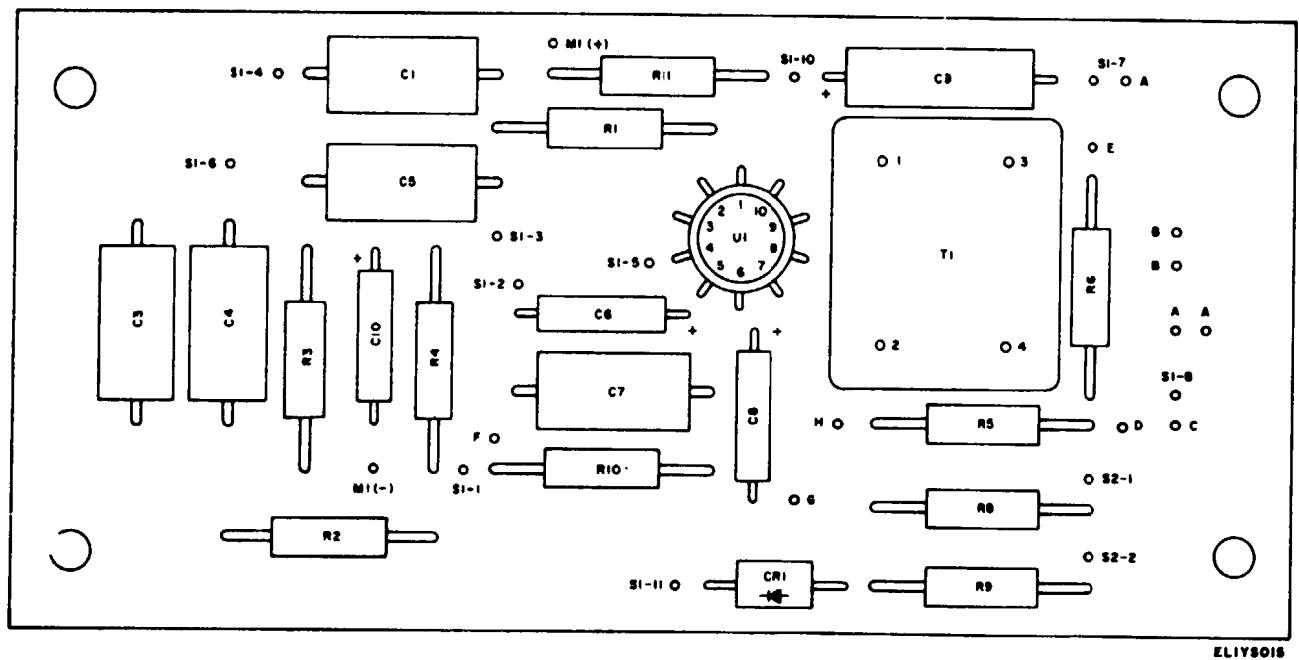

Figure 7-1. Printed circuit board assembly A3A1, component side.
*a.* Resistance measurements for the equipment are listed below. Use figures 7-1 and 7-2 to locate components and points where resistance measurements are to be taken. Before making resistance measurements, remove the battery (para 2-5). Note that the position of S1 will affect resistance readings. Note also, with reference to figure 6-2, that measurements of R1, R5, R7, R10, and T1 have shunt components that will affect their values. In checking capacitors that are connected to the icu, do not assume an open circuit, as the icu has shunt paths internally that will vary in resistance values that may differ with meter polarity. The charts below list resistance measurements across indicated points and components.
*b.* Voltage measurements for the equipment are listed below. Use figures 7-1, 7-2, and 7-3 to locate components and points where voltage measurements are to be taken. Before making voltage measurements, check to see that the battery is properly installed (para 2-5). Measurements are taken with reference to ground.